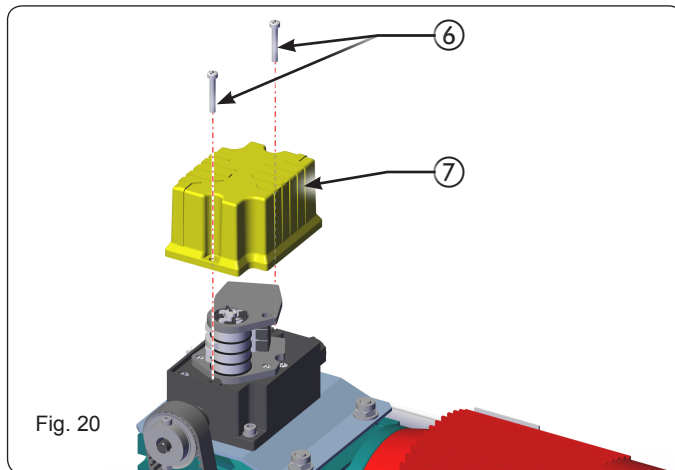

Fig. 20
2. Loosen the screws and remove the limit switch unit cover (Fig. 20 ref. ⑥ ⑦).